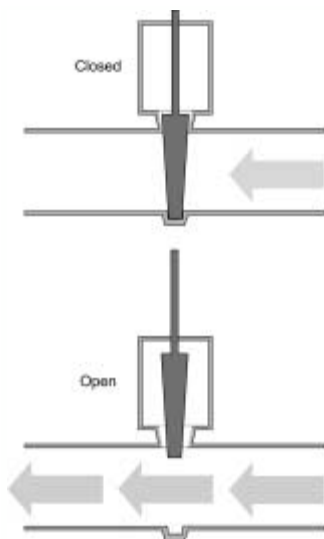

FIGURE 6.12 Gate valve.
- *Gate valves* are slidable baffles that open or close to allow water flow (see Figure 6.12). The actuator is often an electric solenoid that rapidly slides the gate open or closed. These are often used on refrigerant systems and smaller water pipes.